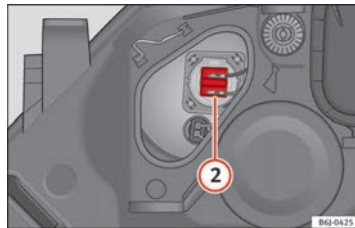

Fig. 165 Main beam headlight.
- Remove connector ⇒ Fig. 165 ② by pulling outward.